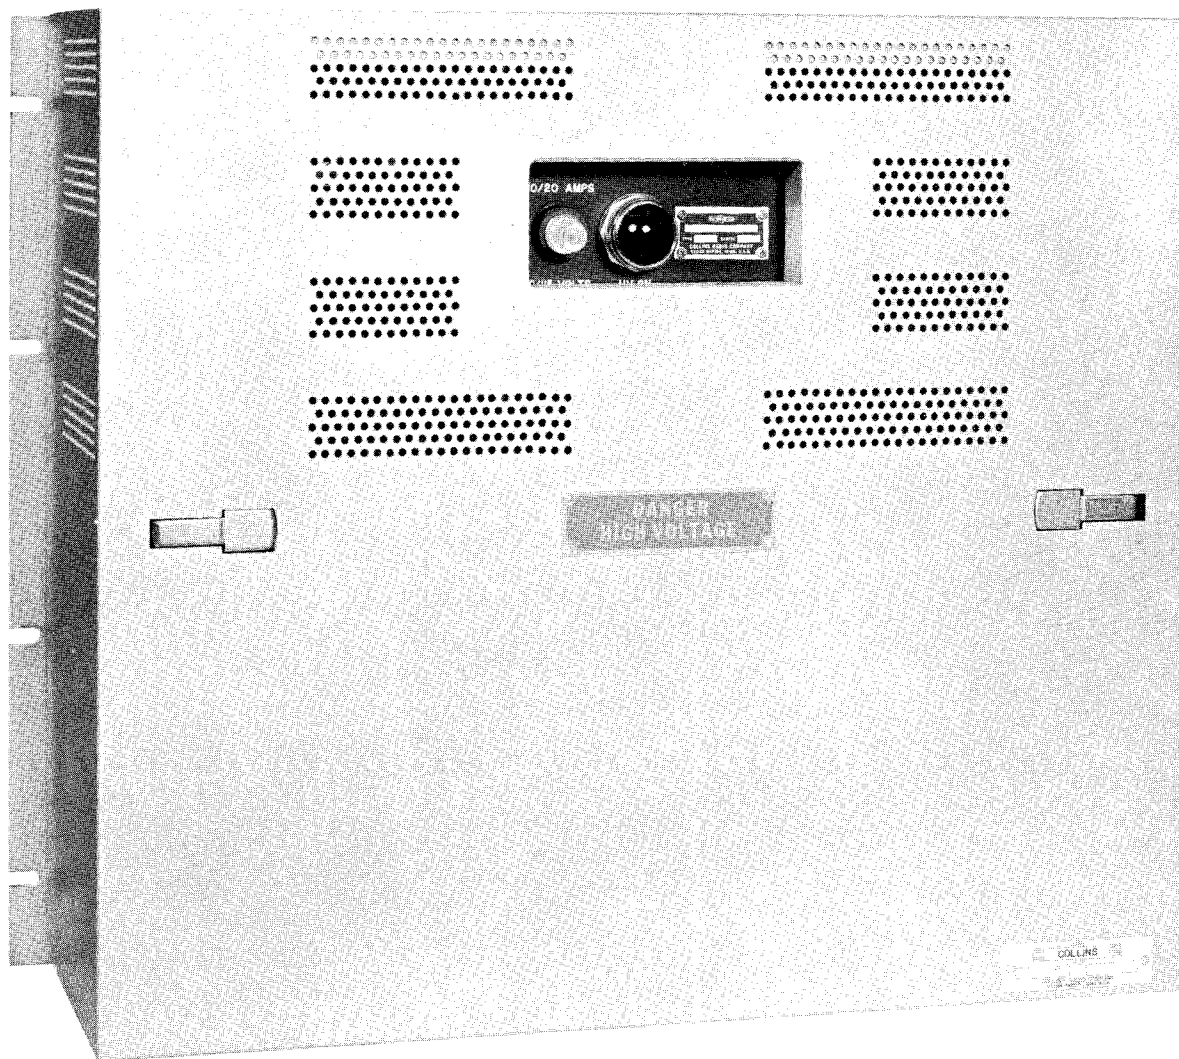

Figure 1-12. Power Supply PP-2153/U
k. POWER SUPPLY PP-2153/U. - (Refer to figures 1-12 and 1-14.) The PP-2153/U is a high-voltage power supply composed of a transformer, two rectifier bridge circuits, and filter and bleeder circuits. The supply can be operated on a 115- or 230-volt, 60-cps, single-phase source; 1245 watts of input power are required. The output voltages which are used in the power amplifier (AM-2061/URT) are +2000 volts at 500 ma and +400 volts at 80 ma.